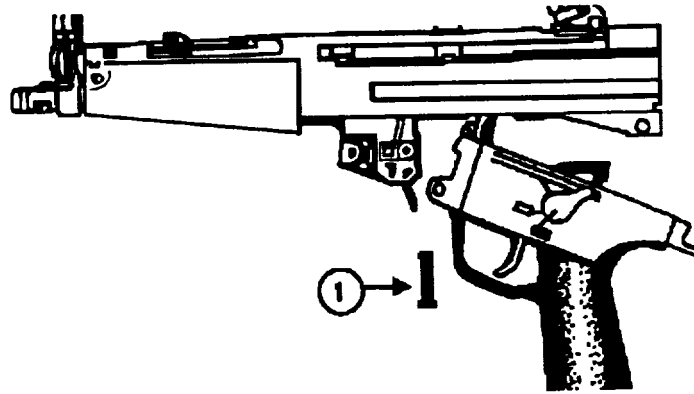

Figure 1-10. Removing Trigger Mechanism Pin
e. Remove trigger mechanism locking pin (1), Figure 1-10, and remove pistol grip and trigger mechanism.
- d. Align the pin hole and install the trigger mechanism locking pin (1), Figure 1-10. Allow the pistol grip and trigger mechanism assembly to pivot downward away from the receiver